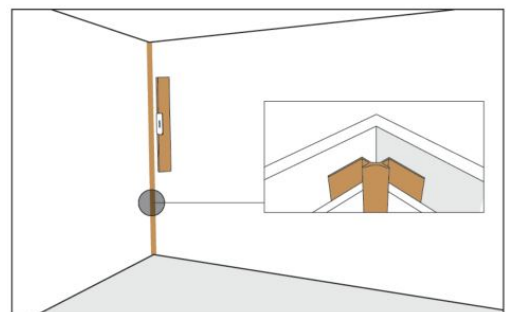

Fig.4
- Press the internal corner trim firmly into the corner and check for perfect vertical alignment with a level. (Fig.4)